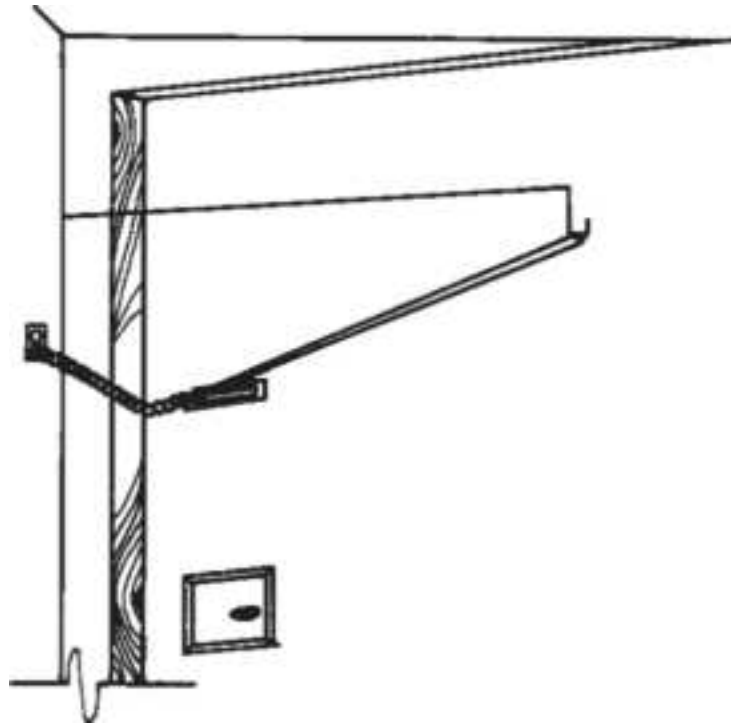

**Figure 17.8** A variation of the rubber band technique.
4. If the door surface will not receive a tack, use a bent coat hanger to stretch the rubber band (Fig. 17.8). Make sure that the coat hanger is long enough and bent properly so that you can close the door as far as possible.